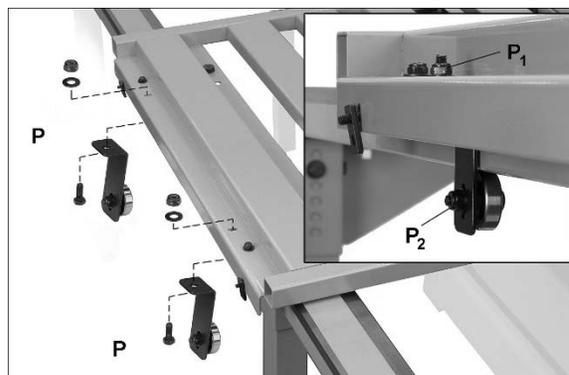

Figure 7-16
8. Install vertical bearing brackets (P, Figure 7-16) to outer rail. Position bracket as far inward toward rail as possible without touching, and tighten lock nut ( $P_1$ ).